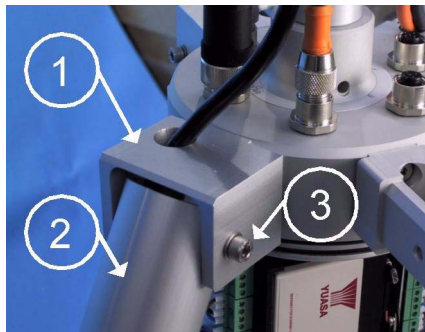

Figure 45 Tripod's Leg Attachment
7. Normally the tripod is fully assembled at the factory, but when not, attach the leg fasteners (number 1 in Figure 45 on page 63) to the upper base. Lock the leg (2) to the leg fastener with a bolt (3).